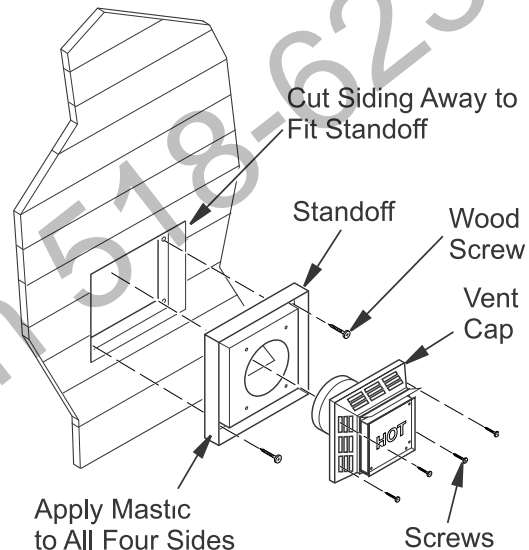

Figure 11 - Installing Siding Standoff (Combustible Exterior Wall)
1. Set fireplace in its desired location and determine the route your horizontal venting will take. Do not secure fireplace until all venting has been installed. Some installations require sliding fireplace in and out of position to make final venting connections. Figures 11 and 12 on page 13 show different configurations for venting with horizontal termination that will help you decide which application best suits your installation. Check to see if wall studs or roof rafters are in the path of your desired venting route. If they are, you may want to adjust location of fireplace.
Combustible Exterior Wall: For vinyl siding, stucco or wood exteriors, a siding standoff may be installed between vent cap and exterior wall. Siding standoff prevents excessive heat from damaging siding materials. Siding material must be cut to accommodate standoff. Bolt vent cap to standoff. Apply non-hardening mastic around outside edge of standoff. Position standoff/cap assembly in the center of 11 1/2" square hole and attach to exterior wall with provided wood screws (see Figure 11). Siding standoff must sit flush against exterior fascia material.